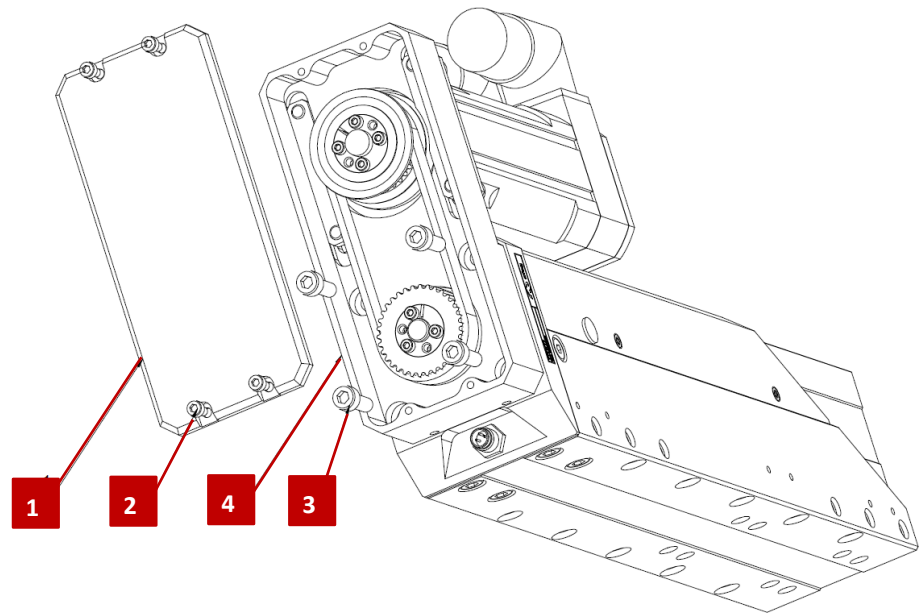

Fig. 8 Adjusting the motor position
3. Remove the screws M3x6 (Fig. 8, 2) and dismount the cover (Fig. 8, 1).
4. For SA-3 and SA-3-FL: Loosen the 4 x screws M4x16 (Fig. 8, 3).
5. For SA-6 and SA-6-FL: Loosen the 4 x screws M5x16 (Fig. 8, 3).
6. Rotate the housing (Fig. 8, 4) 90° to the left or right (swivel).
7. For SA-3 and SA-3-FL: Tighten 4 x screws (Fig. 8, 3) M4x16 with a tightening torque of 4 Nm.
8. For SA-6 and SA-6-FL: Tighten 4 x screws (Fig. 8, 3) M5x16 with a tightening torque of 6 Nm.
9. Mount and fasten the cover (Fig. 8, 1).